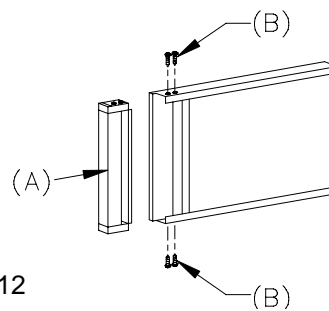

Figure 12
The Norcold refrigerator doors provide slots for inserting decorative panels. Installation of the panels is accomplished by removing the handle assembly, inserting the decorative panel, and re-inserting the handle assembly. This procedure applies to both doors. (See Figure 12)
2. Remove handle assembly (A) by removing four screws (B). (See Figure 12)